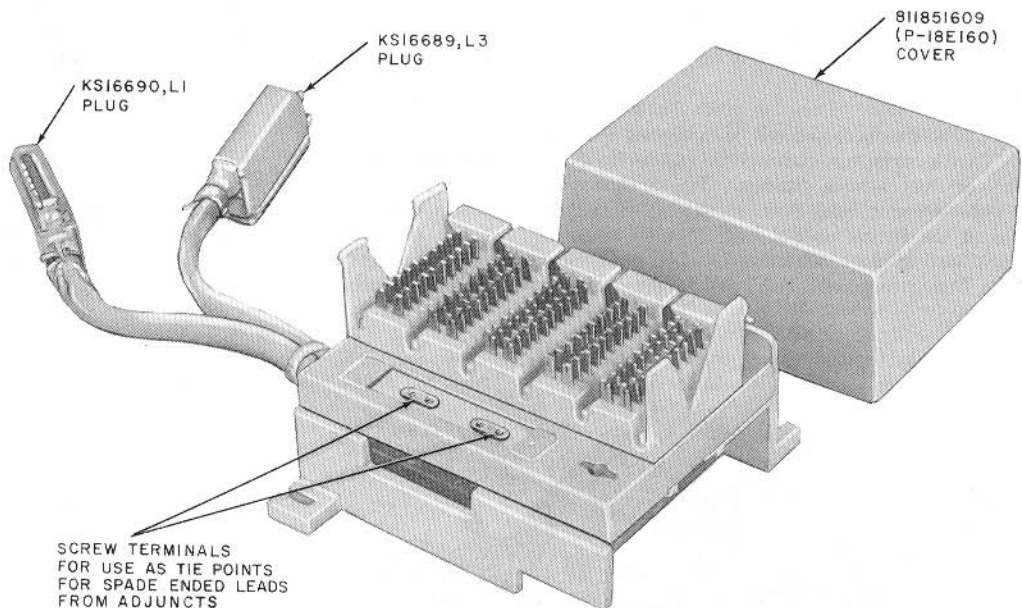

Fig. 3—66E8-25 Connecting Block
**2.05** ♦The 66E8-25 connecting block (Fig. 3) is equipped with a molded plastic base and provides full access to the 50 conductors of the connector cable and mounting cord supplying a telephone set. The connecting block can also be used to gain access to the leads in one finger of larger connector cables and mounting cords such as those for CALL DIRECTORS®. Primary use of the 66E8-25 connecting block is with the 2A transmitter-receiver used to supply HFAI in the 1A1 or 1A2 Key Telephone System.♦